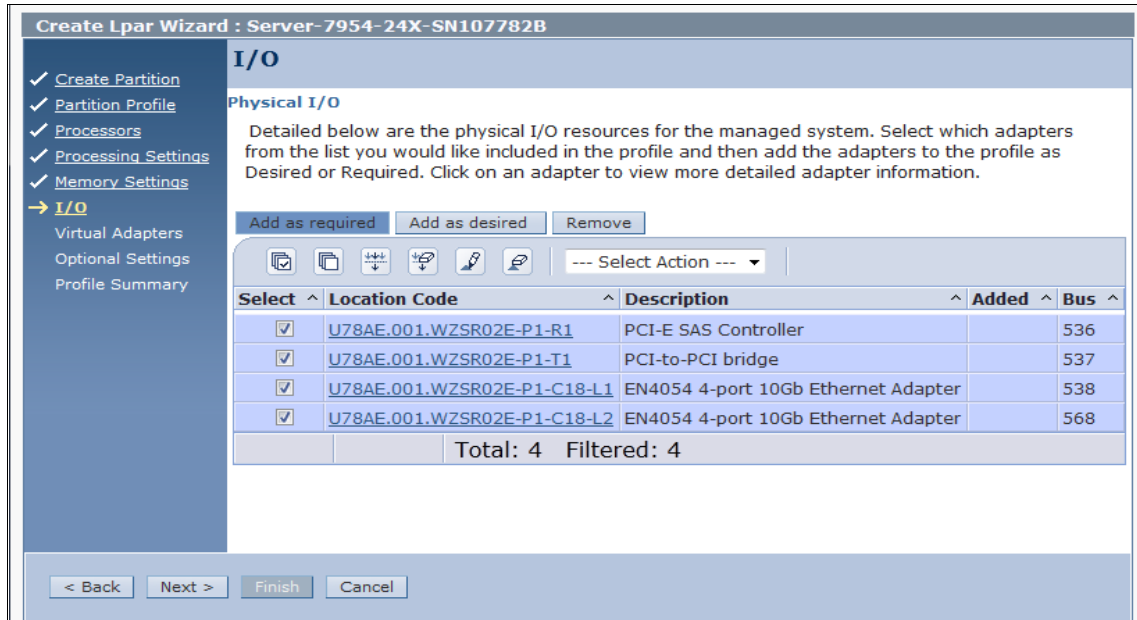

Figure 8-32 HMC I/O assignment window
In this section, we describe the process that is used to assign physical I/O resources to the LPAR in the I/O window, as show in Figure 8-32 on page 382.
- In this example, click **Add as required**, Figure 8-32 on page 382.